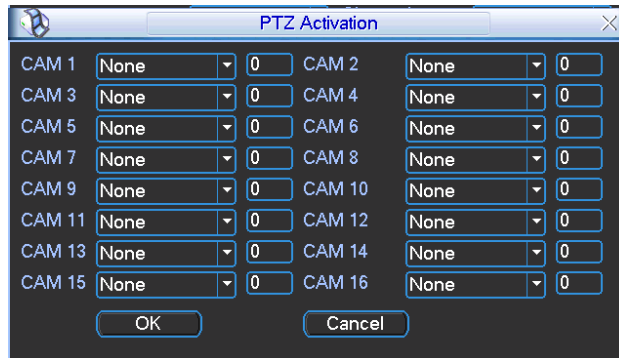

Figure 6-58
- PTZ activation: Here you can set PTZ movement when alarm occurs. Such as go to preset, tour & pattern when there is an alarm. Click “select” button, you can see an interface is shown as in Figure 6-58.